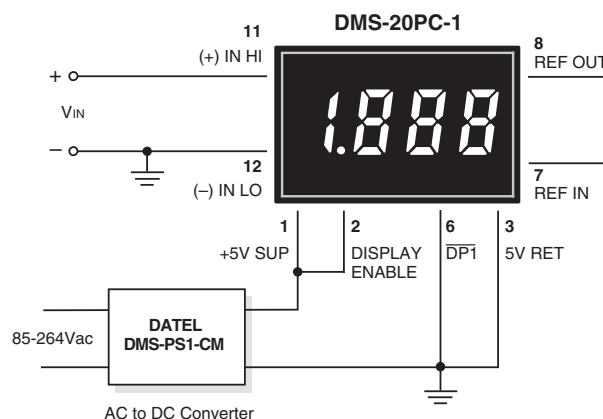

Figure 2. Single-Ended Input Configuration
1. Single-Ended Input Configurations: True single-ended measurements can be made with any DMS-20PC meter. The circuit of Figure 2 avoids problems normally associated with ground-loop currents. Separate ground runs should be used for 5V RETURN (pin 3) and (–) INPUT LO (pin 12).